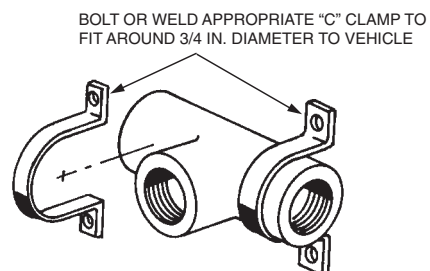

FIGURE 5
1. All distribution network fittings must be welded or clamped to the mounting surface. See Figure 5. All welds must be made before any hose has been installed to avoid damage to the hose due to high welding temperatures.
3. Make certain the end tees on the triple tee are not twisted from their original position. See Figure 5.